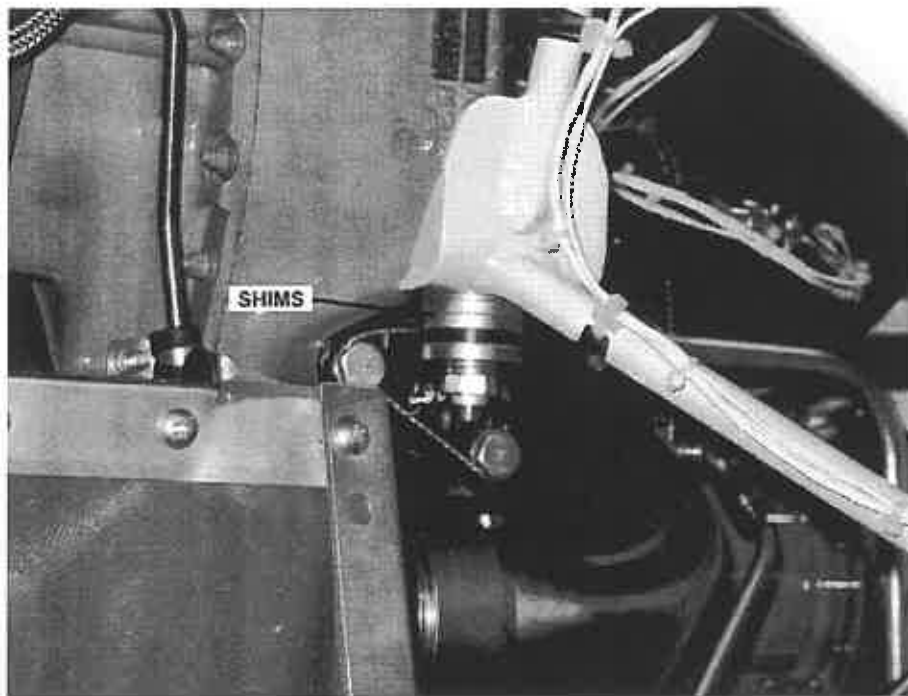

Figure 7 - Engine Bi-Pod Mount
3. The engine hangs from the engine mounts. The vertical position of the engine is changed by adjusting the shim thickness between the pylon mounts (bi-pod on the left side and tri-pod on the right side) and the mounts installed on the engine (See Figures 7 and 8). The upper engine mount will support the weight of the engine; however, the purpose of the mount is to maintain the parallel alignment of the engine to the main rotor transmission and the lower pulley drive system.